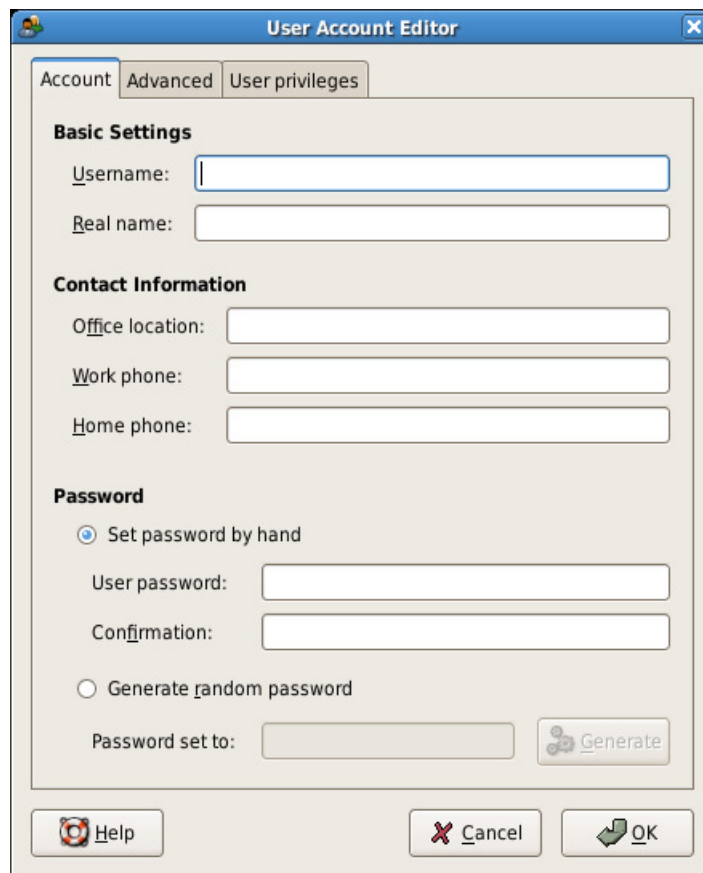

Figure 30 User Account Editor
4. A window will appear where some details about the user must be entered. The most important details are the username and password. It is also possible to specify the real name of the user and some contact information if that is required, see Figure 30.